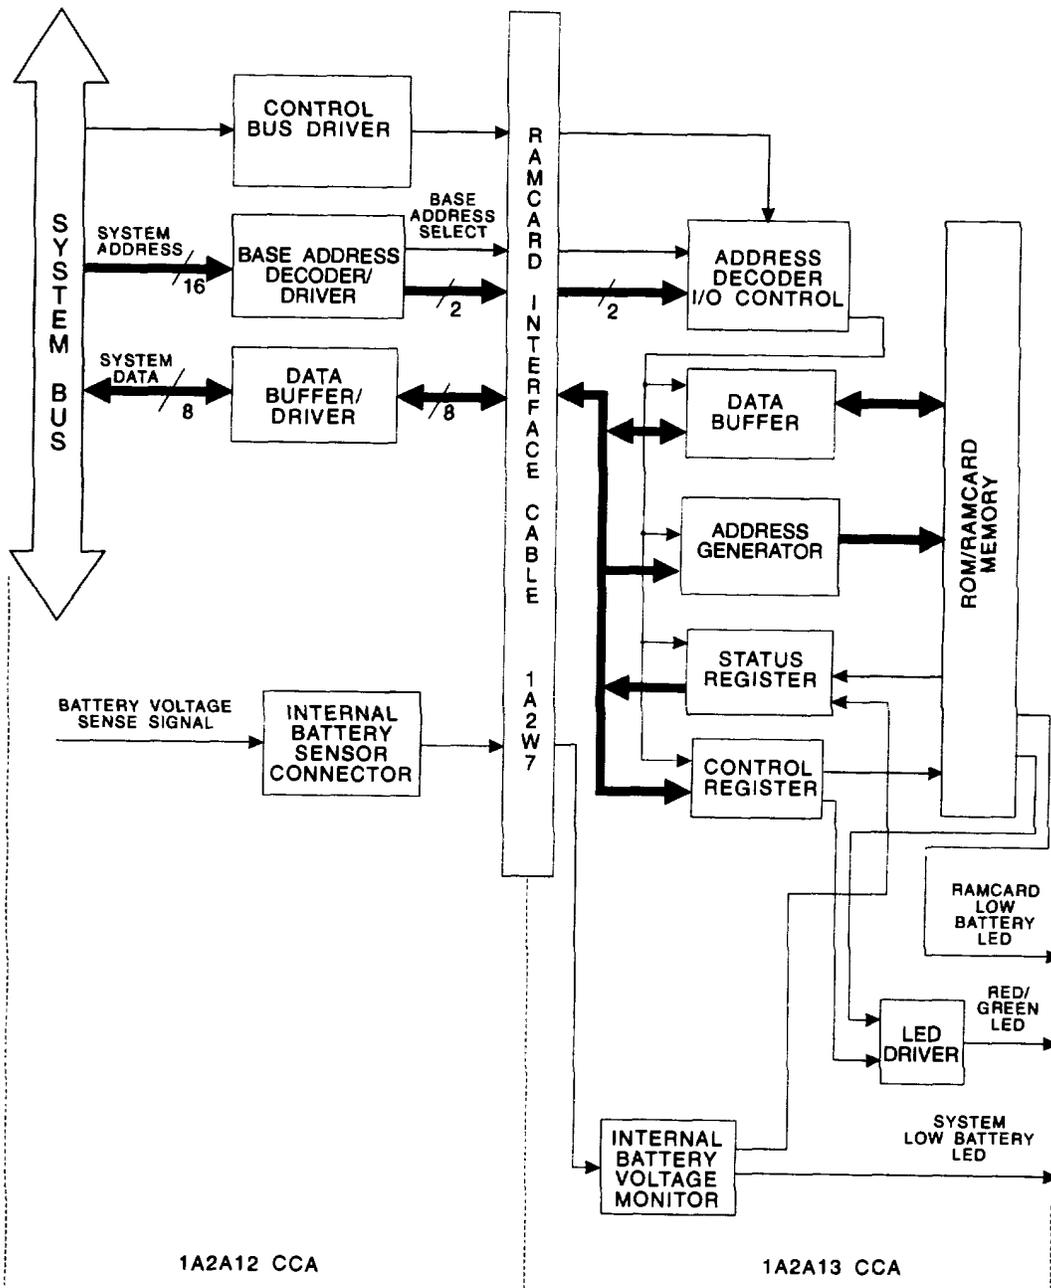

Figure 1-9. 1A2A12 RANCARD Interface CCA and 1A2A13 RAMCARD Driver CCA Functional Block Diagram.
- h. **1A2A12 RAMCARD Interface CCA and 1A2A13 RAMCARD Driver CCA.** These CCA's (fig. 1-9) make up the RAMCARD Subsystem. This subsystem provides the interface between the ROM/RAMCARD and the System Bus.